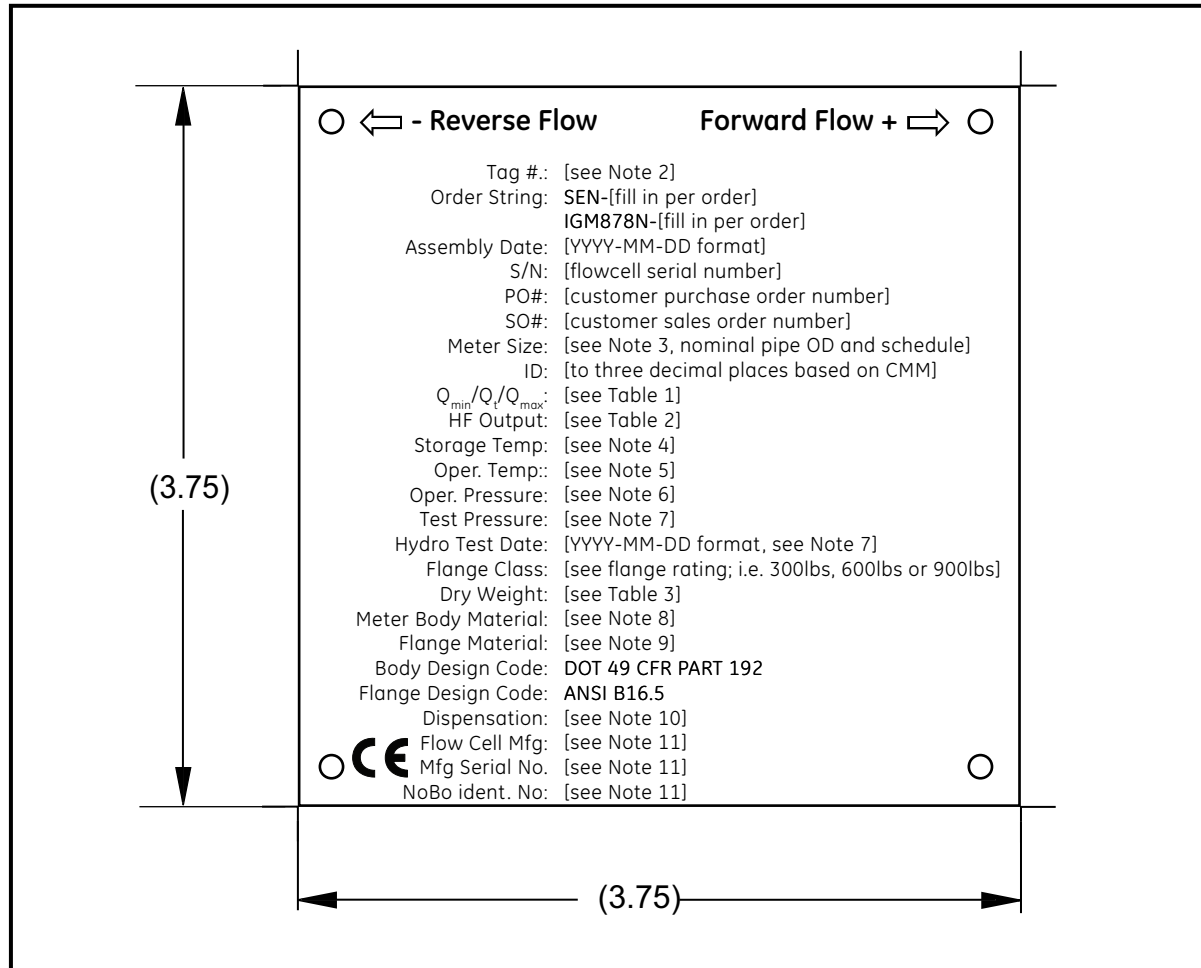

Figure 1: Specification Tag (ref. dwg #442-959B)
3. Verify the tag on the meter reads all of the correct information. Ensure that the tag is in the correct format (reference *Figure 1 on page 2* and *Figure 2 on page 3*).